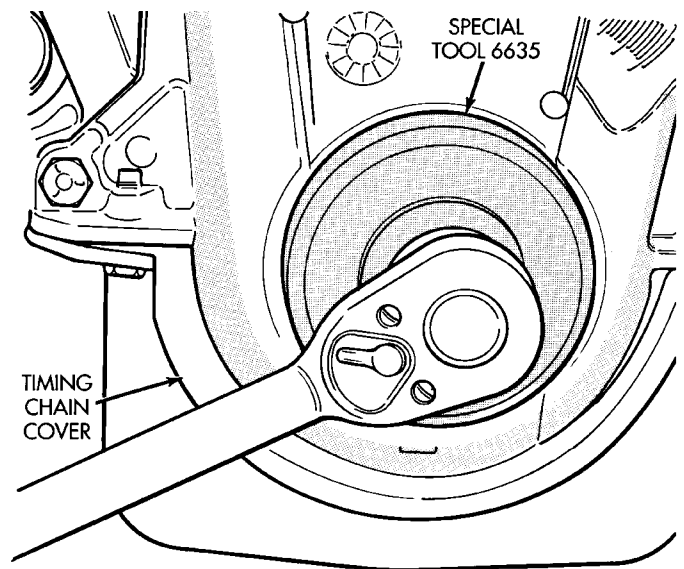

Fig. 44 Installing Oil Seal
(7) Using the vibration damper bolt, tighten the bolt to draw the seal into position on the crankshaft (Fig. 44).